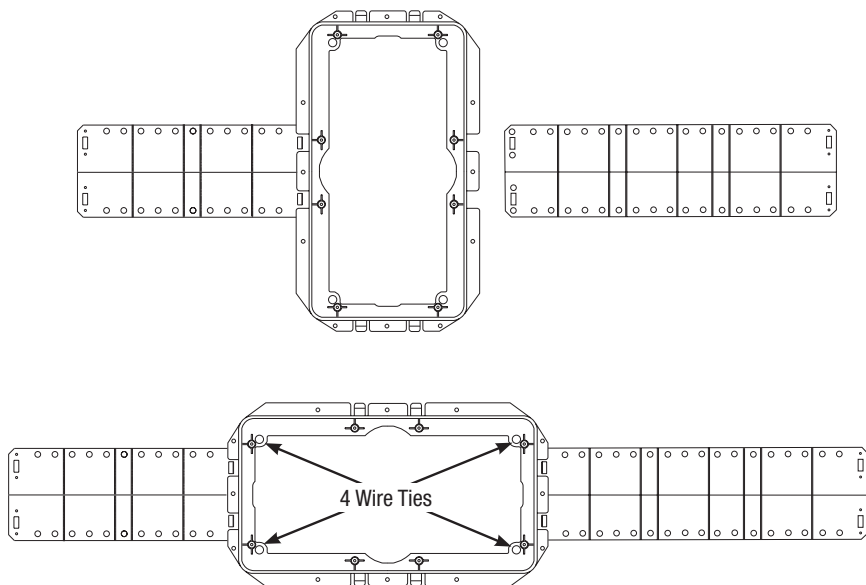

Figure 10. The hole-saving brackets with QuickSnap new-construction wings can be installed horizontally or vertically.
1. *Attach the QuickSnap™ new-construction wings to the bracket by snapping them into the bracket sides. If the length will interfere with corner or eaves, shorten the wings by breaking them along the scored lines. You can mount the bracket horizontally or vertically, as shown in **Figure 10**.*
3. *Attach the wire to the bracket at the indicated wire tie points, as shown in Figure 10.*